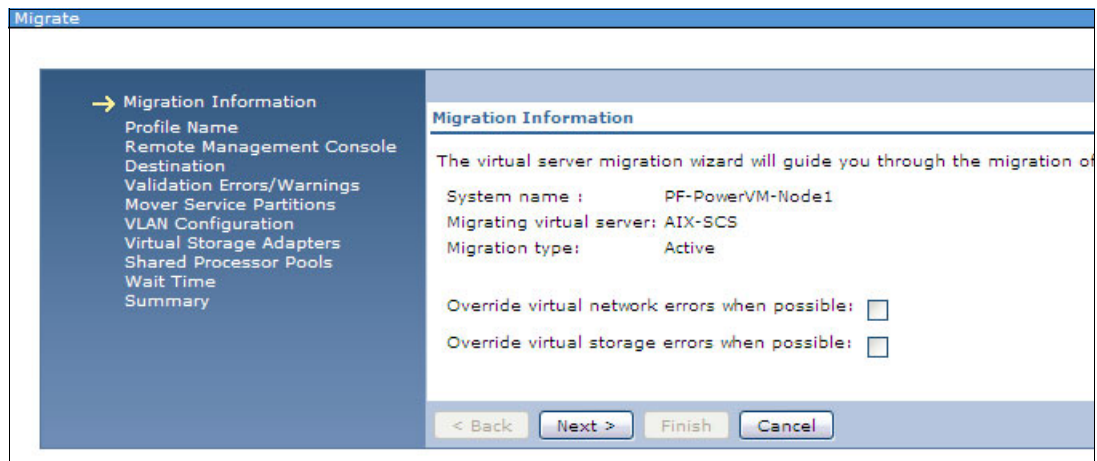

Figure 10-168 Virtual server relocation wizard
7. Figure 10-168 shows the migration wizard. Go through the wizard, then click **Finish** after checking the summary. You can then observe the relocation of the virtual server.